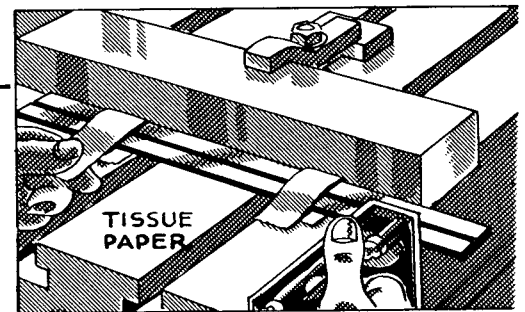

FIG. 306
11. To check the alignment of the work more closely and positively with the square, place a piece of tissue paper between the work and each end of the blade. Then, if necessary, tap the work as before, until the same amount of "drag" is felt on both pieces of paper when they are withdrawn from between the blade of the square and the work (Fig. 306).